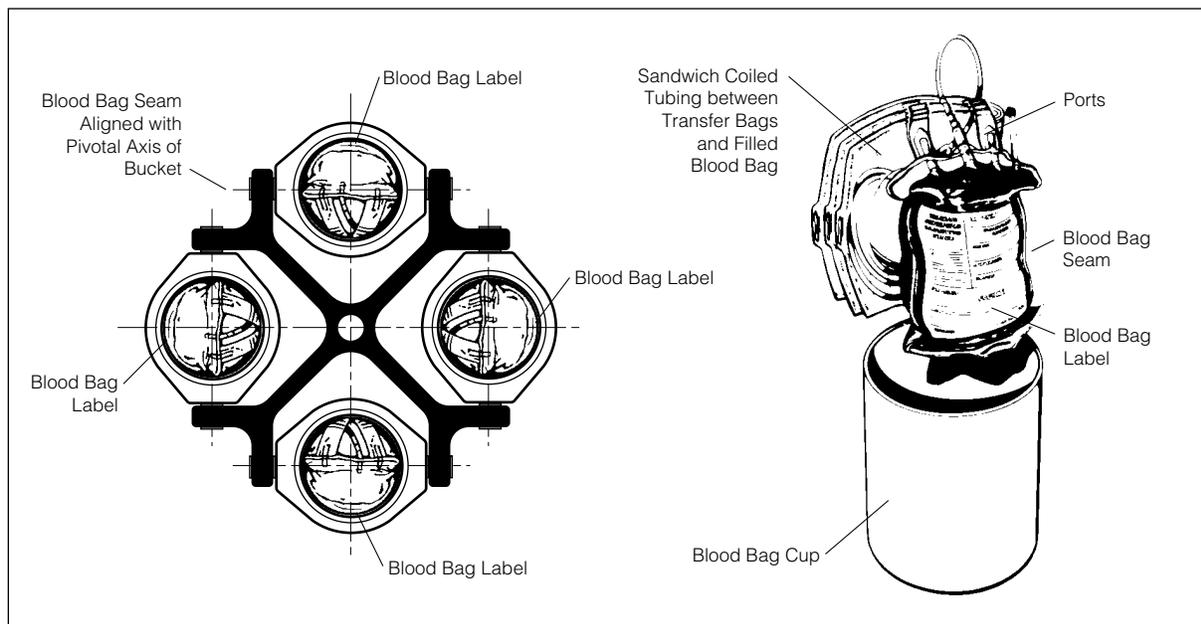

Figure 9. Blood Bag Loading Procedures
2. Sandwich the tubing between the blood bag and any transfer packs (see Figure 9).
4. Place loaded cups into rotor buckets. To reduce the possibility of bag breakage, align the blood bag seam with the rotor pivot pins (see Figure 9) with the label facing out.